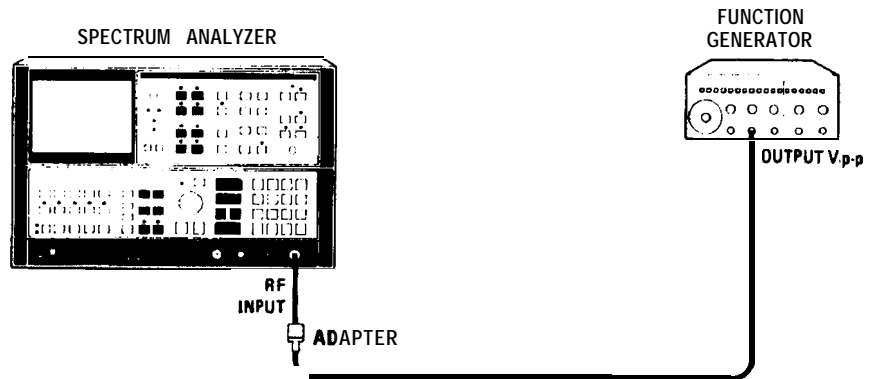
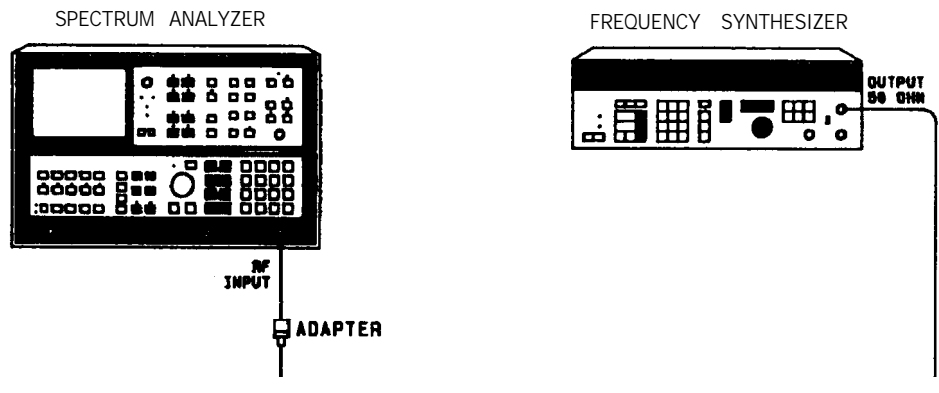

Figure 2-14. Frequency Response Test Setup (100 Hz to 100 kHz)
Figure 2-16.
Equipment listed is for three test setups, Figure 2-14, Figure 2-16, and Figure 2-18.
3. Press **(2 - 22 GHz)** on the spectrum analyzer. Connect function generator to analyzer RF INPUT as shown in Figure 2-14.
19. Connect equipment as shown in Figure 2-16.